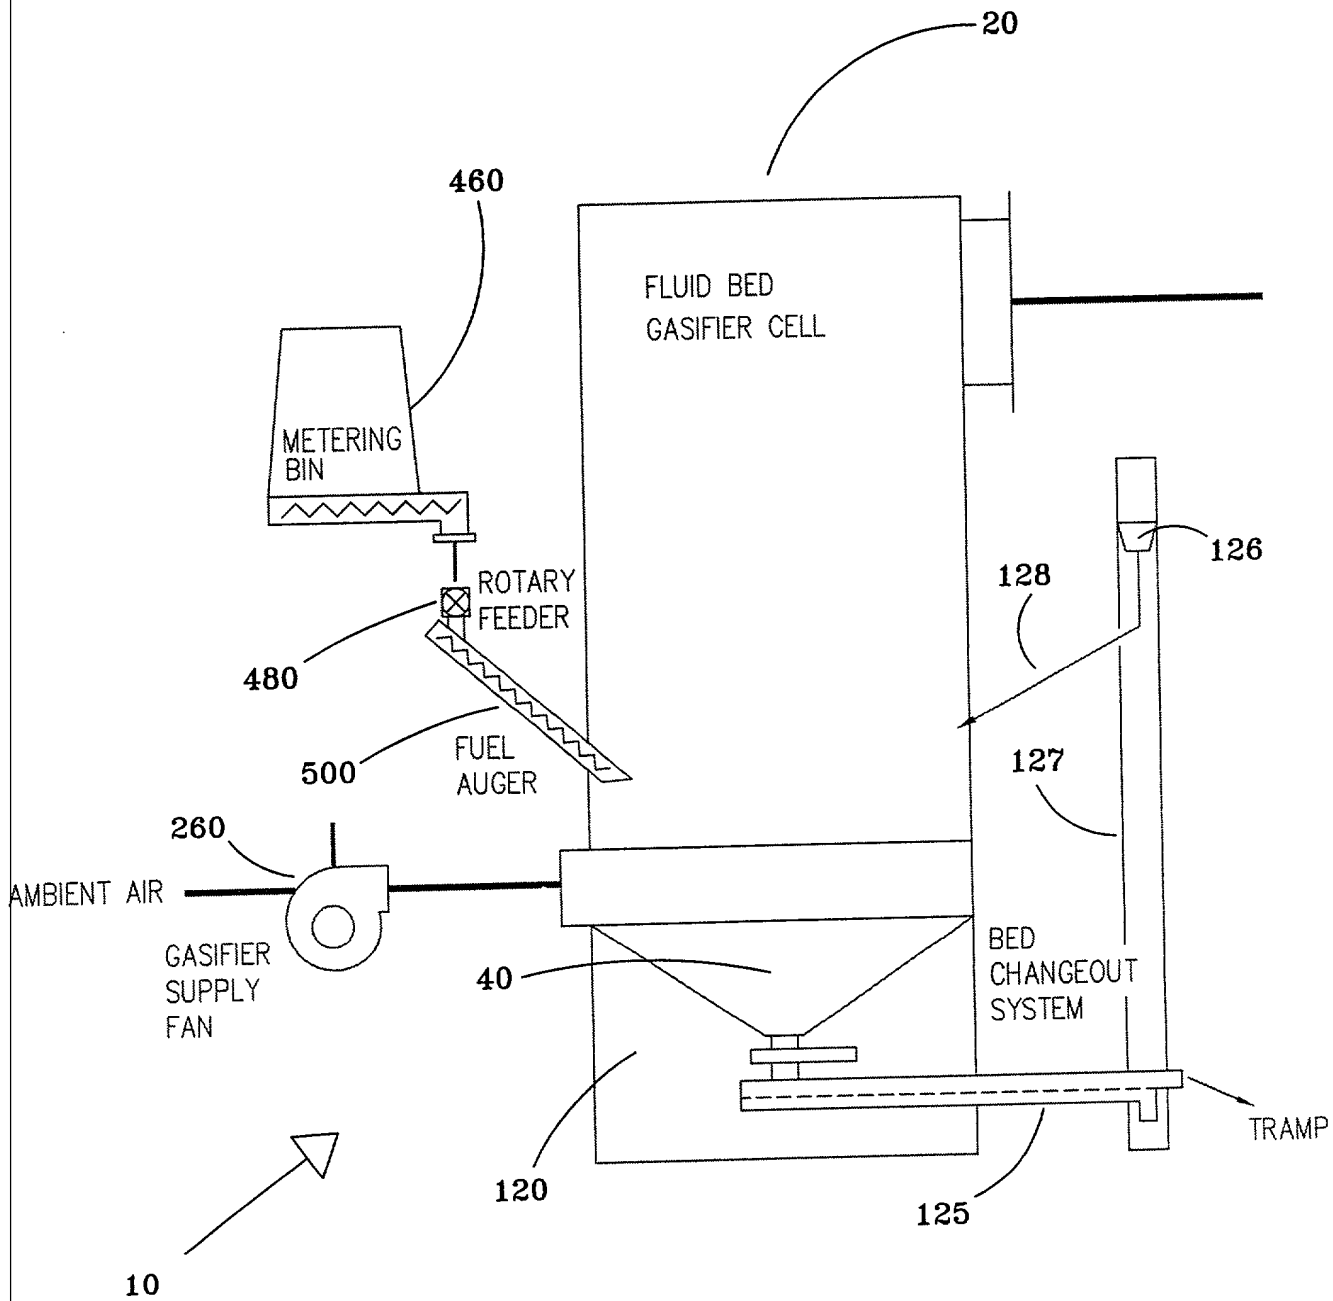

FIG. 4
FIG. 4 is a schematic diagram of a fluid bed gasifier system. The system includes a metering bin (460) connected to a rotary feeder (480) which feeds fuel (500) into a fluid bed gasifier cell (20). Ambient air (260) is drawn in by a gasifier supply fan (260) and enters the cell. The cell is equipped with a bed changeout system (120) and a tramp (125). The system is controlled by a tramping mechanism (126) and a tramping system (127).